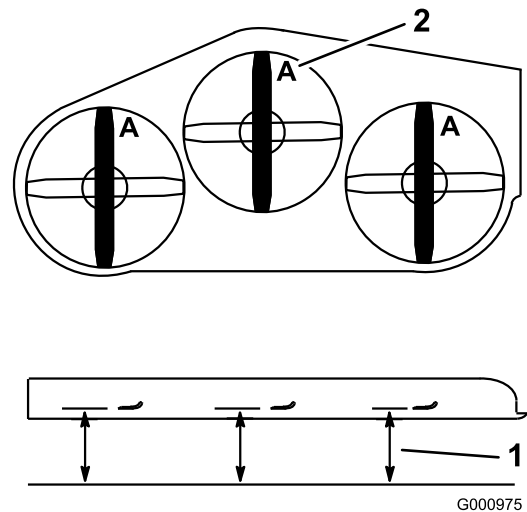

Figure 78
to the cutting edge, position A, of the blades (Figure 78). Note this dimension.
3. Rotate the blades until the ends face forward and backward (Figure 78). Measure from a level surface